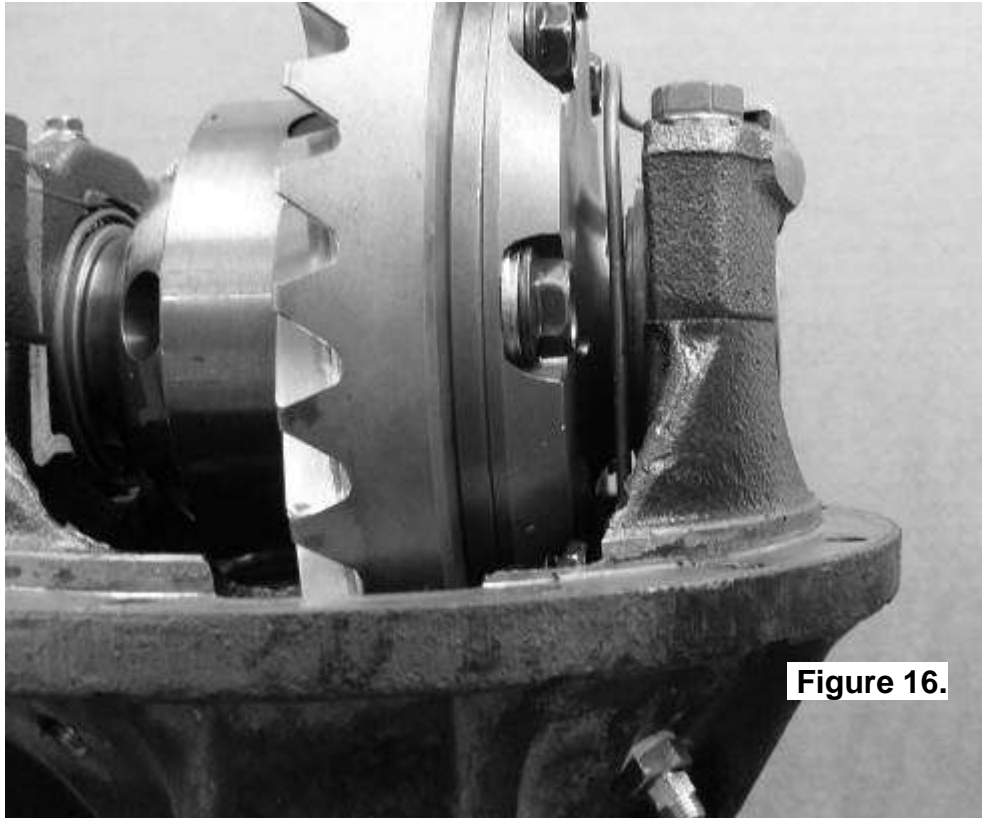

Figure 16.
- ☐ With the seal housing tube now firmly secured into the bulkhead fitting, bend the tube so that it closely follows the profile of the differential. (Figs.16., 17., & 18.)